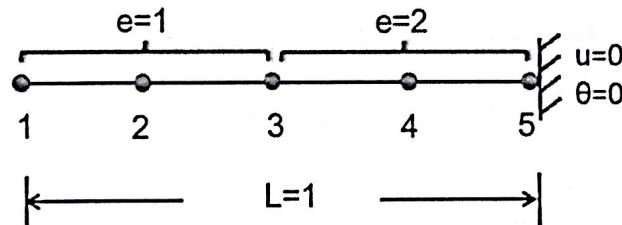

Figure 4. Two element mesh. (3-node quadratic element).
- 2) For the 2-element mesh with zero Dirichlet BCs at the right end (shown in Fig 4 below), develop the linear system. Show all your work.